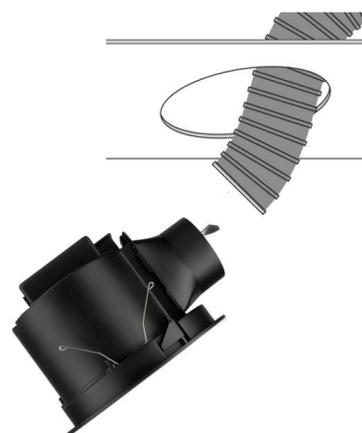

Fig 2.
9. Note: if ducting is required to completely exhaust air from the room, then install a 150mm or 100mm duct pipe to the exhaust fan and lay the ducting across the ceiling and onto a suitable 150mm or 100mm exhaust vent. (Fig 2)